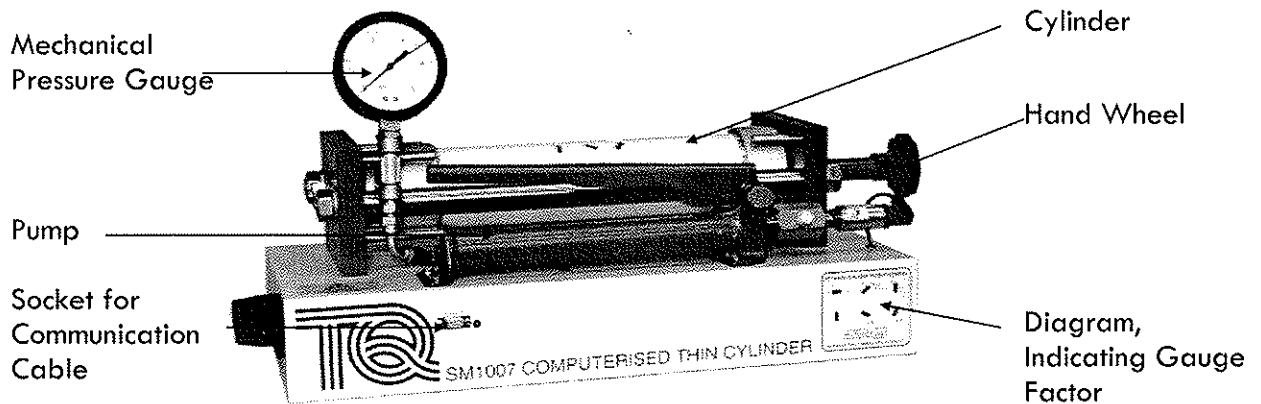

Figure 3 Layout of the SM1007
- Figure 3 shows the SM1007 Thin Cylinder apparatus. It consists of a thin walled aluminum cylinder of 80 mm inside diameter and 3 mm wall thickness. Operating the hydraulic pump pressurizes the cylinder with oil.